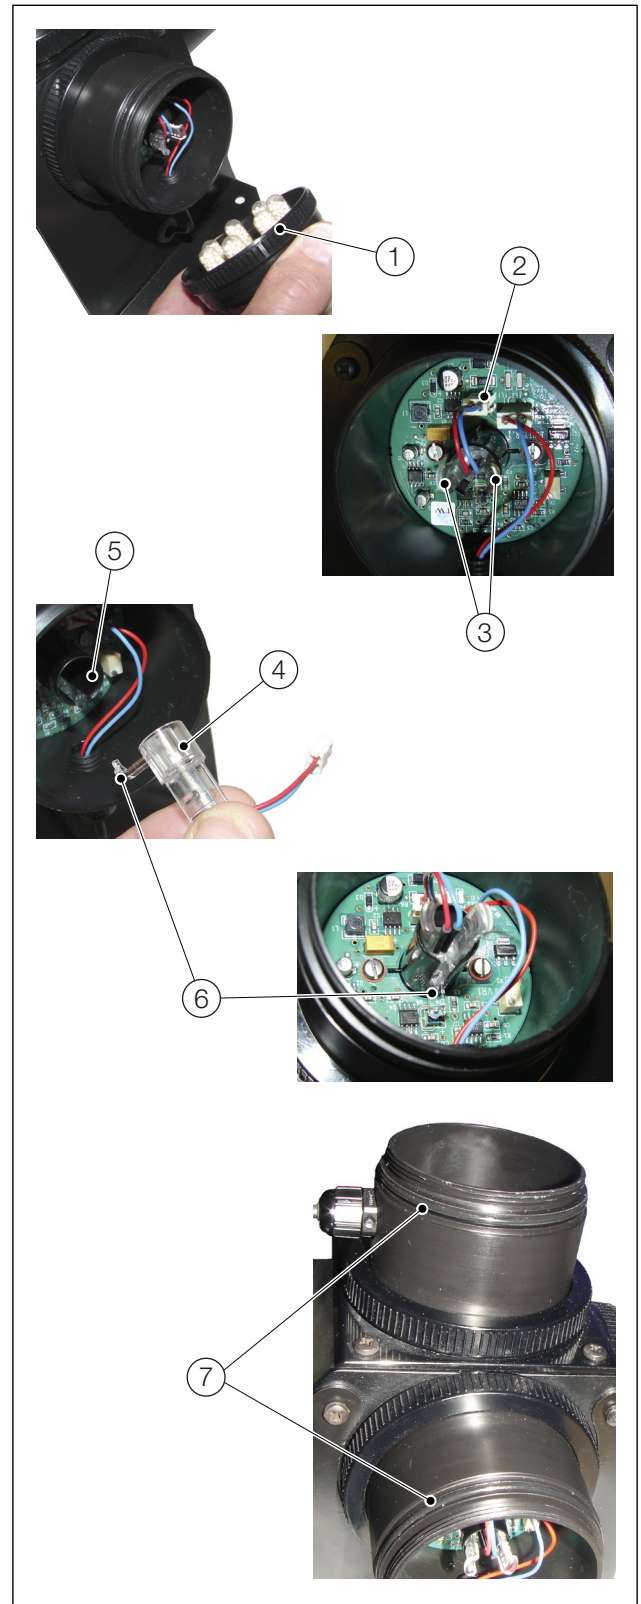

Fig. 3.1 Replacing emitter module LED / lamp
**Note.** Do not touch the LED / lamp, handle the LED / lamp using the retaining tabs (item ③ in Fig. 3.1) only.
2. Referring to Fig. 3.1:
- a. Unscrew and remove emitter and receiver module end cap assemblies ① and discard.
- b. Disconnect the emitter LED / lamp connector ② from receptacle J2 on the PCB.
- c. Gently squeeze retaining tabs ③ together and pull to withdraw LED / lamp ④ from its housing ⑤.
- e. Insert replacement LED / lamp ④ into housing ⑤ ensuring tab on LED / lamp ⑥ enters slot in housing. Press until LED / lamp clicks into place.
- f. Connect the emitter LED / lamp connector ② to receptacle J2 on the PCB.
- g. Ensure emitter and receiver module end cap O-rings ⑦ are undamaged and located correctly in the module groove.